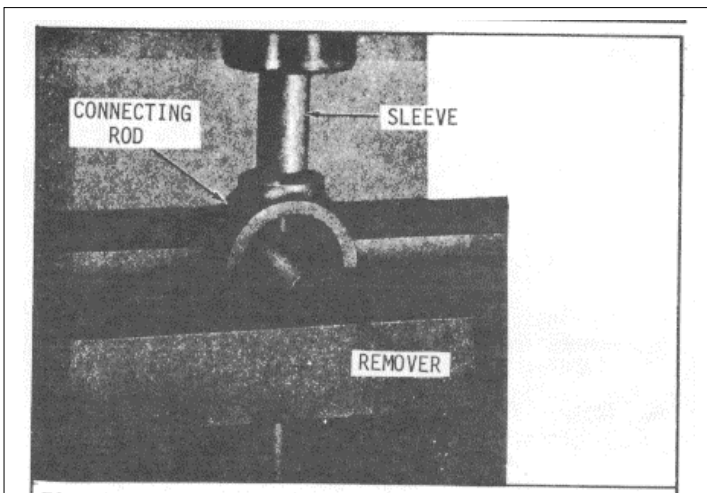

Fig. 6
- (3) Support the connecting rod and tool in an arbor press as shown in Fig.6.
- (4) Place a short sleeve directly over the spray nozzle. Then press the nozzle out of the connecting rod.
- (5) Remove the tool.